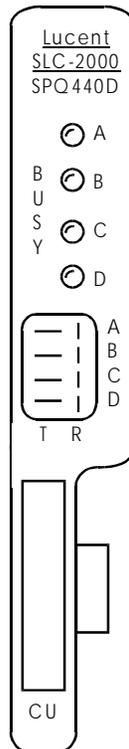

Figure 1. SPQ440D Faceplate Diagram
- Figure 1 shows the faceplate diagram for the *SPQ440()* CU.
The SPQ440() channel units share a common faceplate layout. The SPQ440() has one test access faceplate jack and four red LED indicators; Refer to Figure 1.